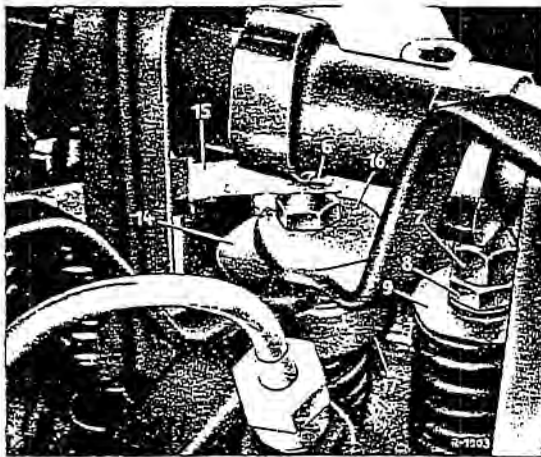

Fig. 00-3/5
Fit the special wrench (17) over the hexagon of the valve spring retainer. Slacken the hexagon nut (8) on the valve by means of the special wrench (14) holding the cap nut (7) steady with the special wrench (16). Then adjust the prescribed tappet clearance by turning the cap nut (7) using the special wrench (16) (see Job No. 00-0), holding the valve steady by means of the special wrench (17) fitted over the hexagon of the valve spring retainer (9). After adjusting the cap nut (7) lock it by tightening the hexagon nut (8) and once again check the tappet clearance (see Figs. 00-3/4 and 5).